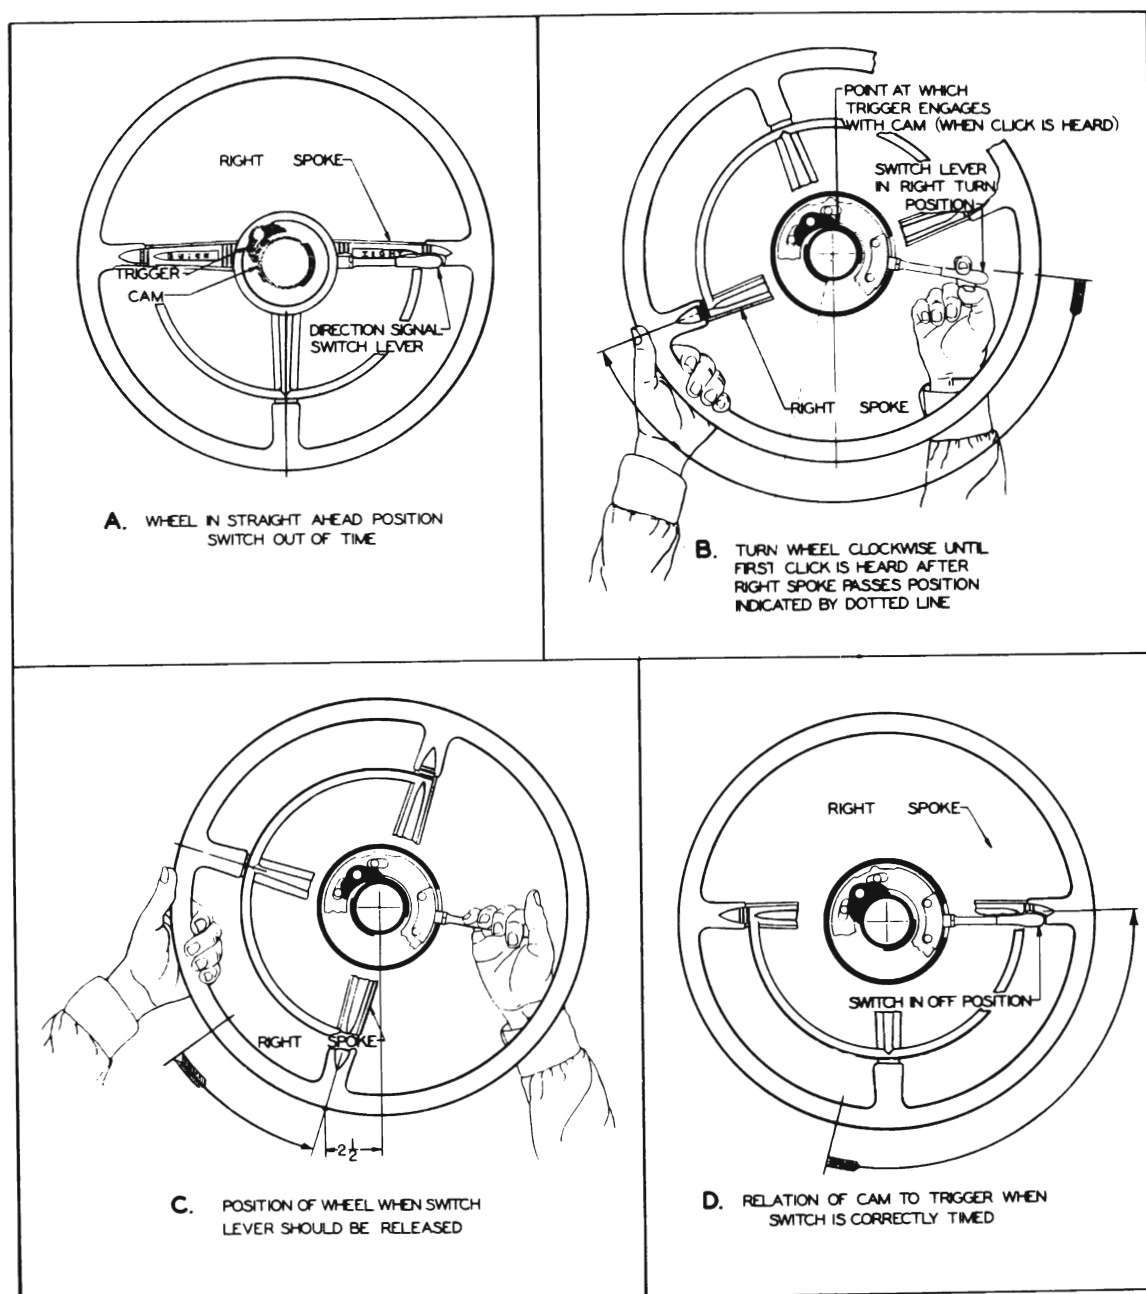

Figure 10-122—Timing of Direction Signal Switch Cam
cam is not in proper relation to the trigger. See figure 10-122, view A.
2. Move switch control lever down to indicate a right turn, then rotate steering wheel clockwise until click is heard as the switch trigger drops into a notch in the cam, or a slight movement of control lever is felt. The steering wheel should have been turned at least one-third revolution at this point. See figure 10-122, view B.
3. Hold control lever down firmly and slowly turn steering wheel counterclockwise until the right horizontal spoke is approximately $2\frac{1}{2}$ " to the left of the straight-down position. This will cause the cam to slip in its friction mounting on the steering wheel hub. See figure 10-122, view C.
tion as the wheel is turned. No further adjustment is required for a left turn. See figure 10-122, view D.